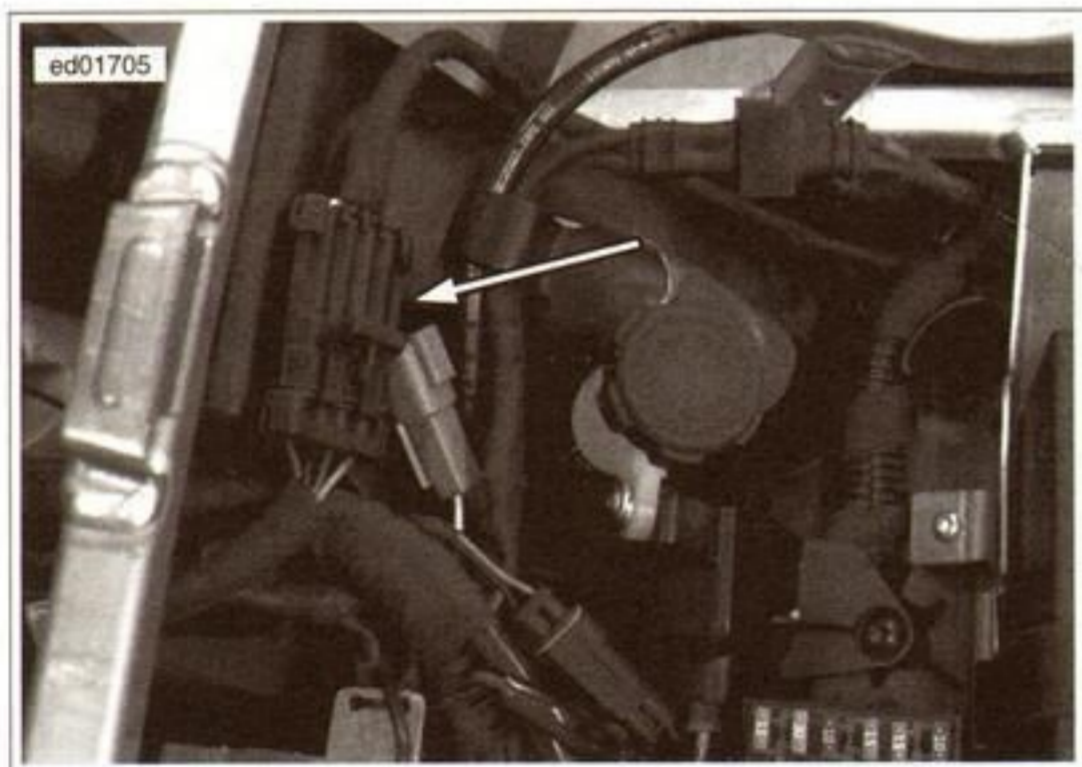

Figure 3-9. Fuel Pump Connector [86]
1. See Figure 3-9. Disconnect fuel pump connector [86] located under the seat.